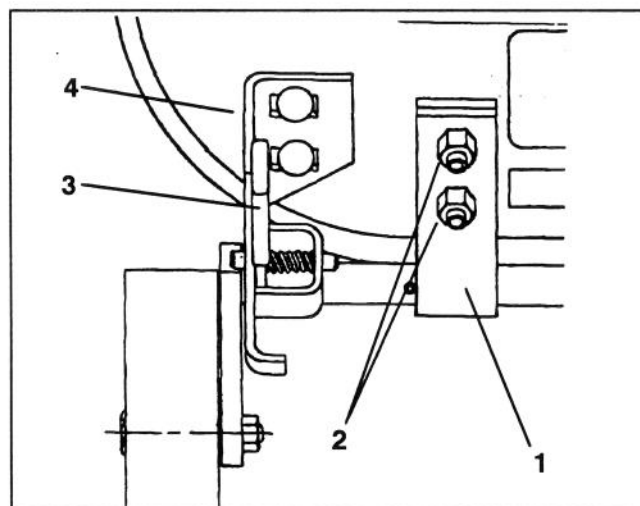

Figure 2
3. Remove carriage bolts and nuts securing rear gage wheel shaft mounting brackets to rear of deck (Fig. 2).
4. Disengage height-of-cut lever from quadrant slot and remove gage wheel assembly from mower deck (Fig. 2).
15. Refer to 48" Mower Grass Baffle Installation, page 1, steps 1 & 3 and Fig. 2 in "Pre-Delivery Dealer Check List"